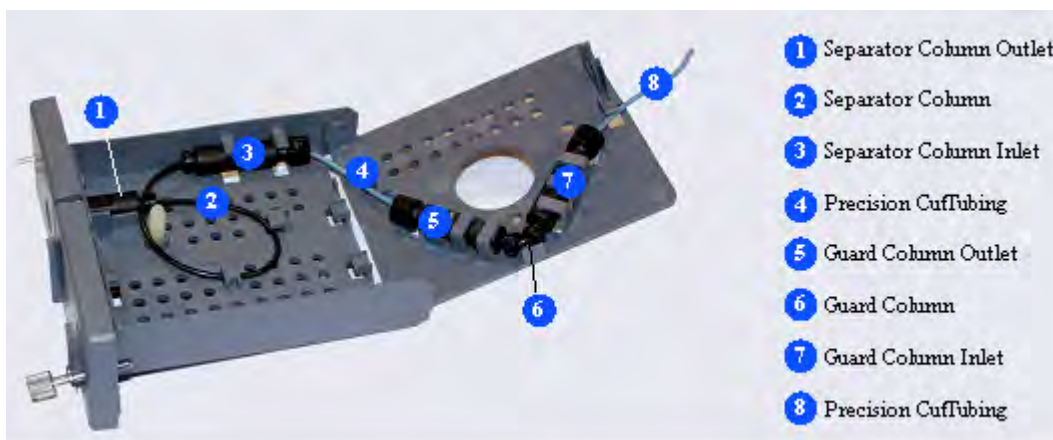

Figure 2
Before installing the new separator column, tear off the column label and slide it into the holder on the front of the cartridge (see Figure 2).
For reference, Figure 2 shows the column cartridge after installation of both a capillary guard column and a capillary separator column. Figure 3 shows the column cartridge after installation of only a capillary separator column. Before installing the new separator column, tear off the column label and slide it into the holder on the front of the cartridge (see Figure 2).
For reference, Figure 2 shows the column cartridge after installation of both a capillary guard column and a capillary separator column. Figure 3 shows the column cartridge after installation of only a capillary separator column.
5. Coil the separator column tubing inside the cartridge as shown in Figure 2 or Figure 3. Secure the column tubing and the inlet fitting in the clips on the column cartridge.